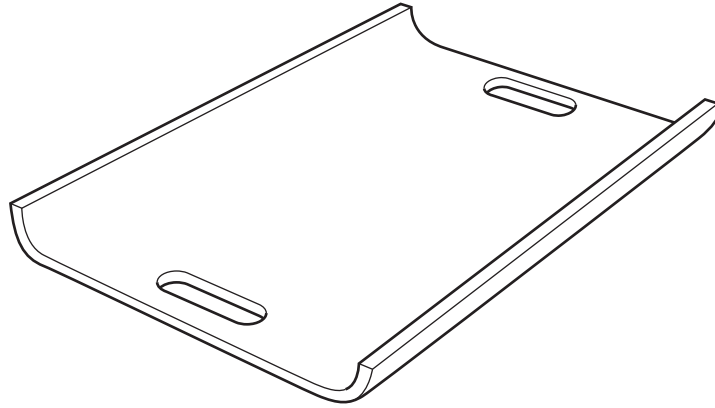

Fig. 6
- 5 Fig. 6 shows a design for a tray to be used to carry cups, saucers and plates. The tray is made from sheet plastic with the aid of a male and a female former.